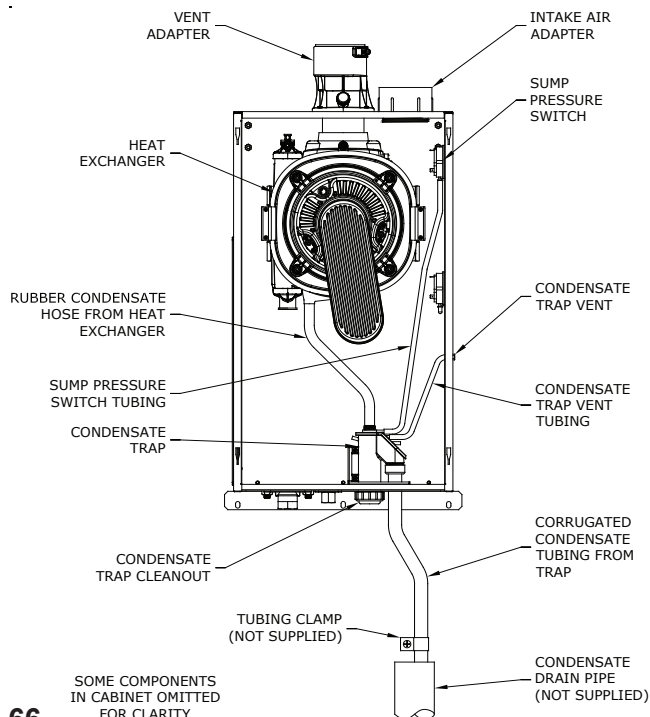

Figure 7.47: Condensate Piping Arrangement
All condensate which forms in the boiler or vent system passes through the heat exchanger and out of a bottom drain port which is connected to the condensate trap with a hose. This trap allows condensate to drain from the heat exchanger while retaining flue gases in the boiler. This trap is an integral part of the boiler but must be connected to a drain pipe as shown in Figure 7.47. A length of corrugated tubing is supplied with the boiler and is connected to the trap as shown in Figure 7.47. Note the following when disposing of the condensate:
1. If the corrugated condensate drain line must be extended, construct the extension from PVC or CPVC pipe. Insert the hose provided with the boiler into the end of the extension as shown in Figure 7.47.
6. Do not attempt to move the trap from the location shown in Figure 7.47. Do not attempt to substitute another trap for the one provided with the boiler.
7. The vent shown in Figure 7.47 must be left open for the trap to work properly.